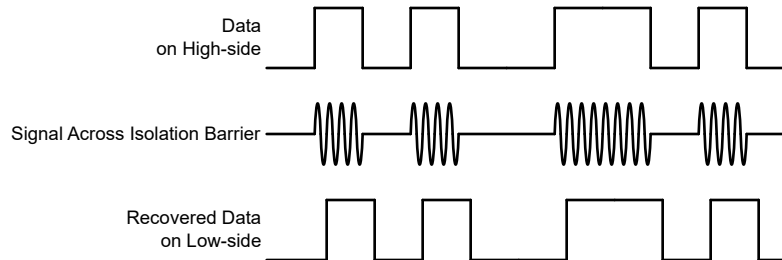

Figure 7-4. OOK-Based Modulation Scheme
The AMC22C12-Q1 uses an on-off keying (OOK) modulation scheme, as shown in Figure 7-4, to transmit the comparator output states across the SiO₂-based isolation barrier. The transmit driver (TX) shown in the Functional Block Diagram transmits an internally-generated, high-frequency carrier across the isolation barrier to represent a digital *one* and does not send a signal to represent a digital *zero*.